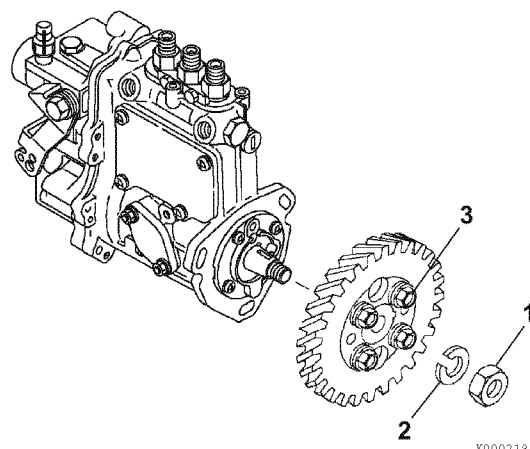

Figure 7-19
15. Do not loosen or remove the four bolts (3, **Figure 7-19**) holding the pump drive gear to the hub. Only remove the single drive gear nut (1, **Figure 7-19**) and washer (2, **Figure 7-19**), leaving the hub attached to the gear.
16. Hold the gear train stationary using a large socket wrench on the crankshaft pulley bolt. Loosen the fuel injection pump drive gear retaining nut (1, **Figure 7-19**) and turn it out to the end of the fuel injection pump shaft.